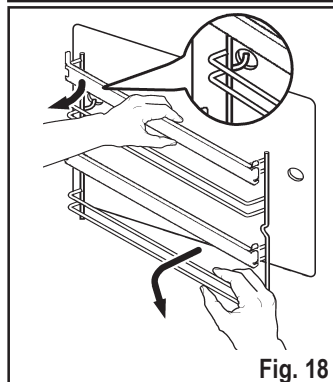

Fig. 18
2. Disengage the rear hook and take off the shelf support. Do the same thing on the other side of the oven (Fig. 18).